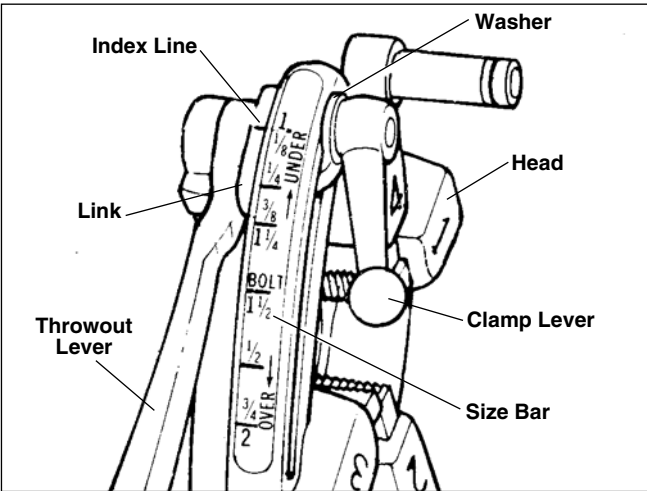

Figure 8 – Universal Quick-Opening Die Head
6. Quick-Opening 811A Die Head (Figure 8) – When the end of the pipe being threaded is flush with the end of the number 1 die, rotate throwout lever to OPEN position, retracting dies.
The No. 811A Universal Die Head (*Figure 8*) for right hand threads requires four sets of dies to thread pipe ranging from 1/8" through 2". One set of dies is required for each of the following pipe size ranges: (1/8"), (1/4" and 3/8"), (1/2" and 3/4") and (1" through 2"). Bolt threading requires a separate set of dies for each bolt size. No bolt dies are available for left hand universal die heads.